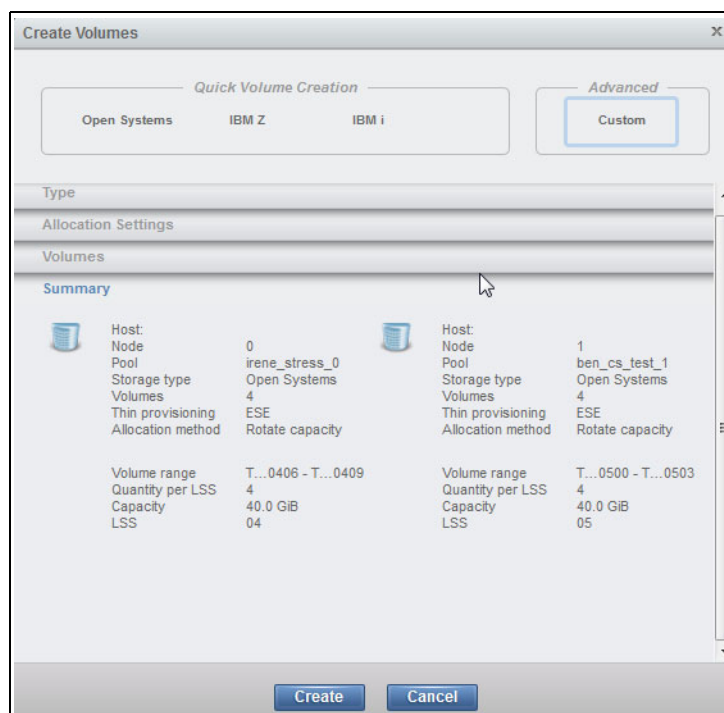

Figure 11-61 Creating Custom Volume for IBM i
5. See “Create IBM i volumes:Quick volume creation” on page 318 and specify the required volume settings. A summary window is shown in Figure 11-61 on page 324.